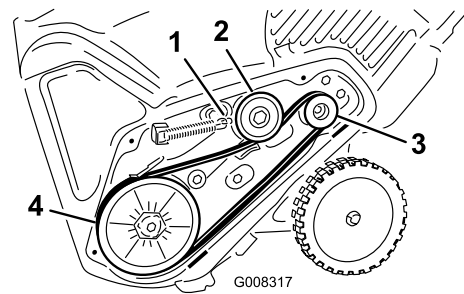

Figure 28
5. Install the new drive belt, routing it as shown in Figure 28.
8. Install the brake spring onto the idler arm (Figure 28).